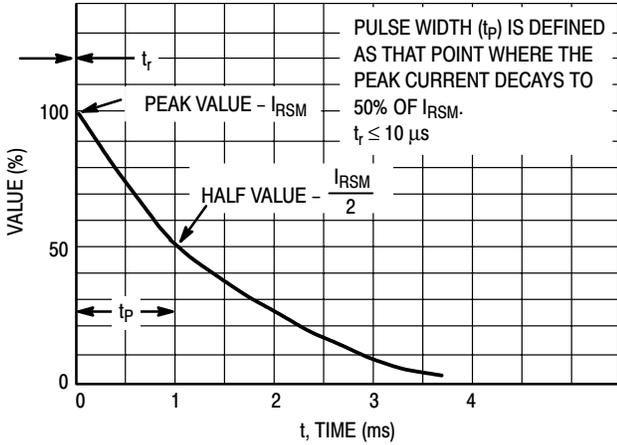
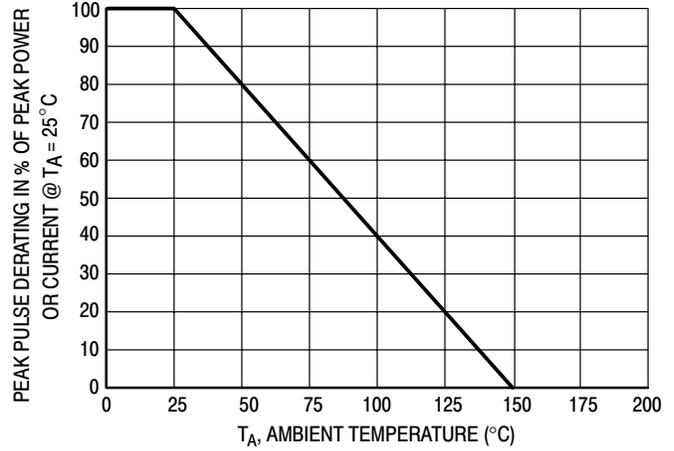

Figure 5. Pulse Waveform
Figure 6. Pulse Derating Curve
- Non-repetitive current pulse per Figure 5. and derate above $T_A = 25^\circ\text{C}$ per Figure 6.
- Surge current waveform per Figure 5. and derate per Figure 6.